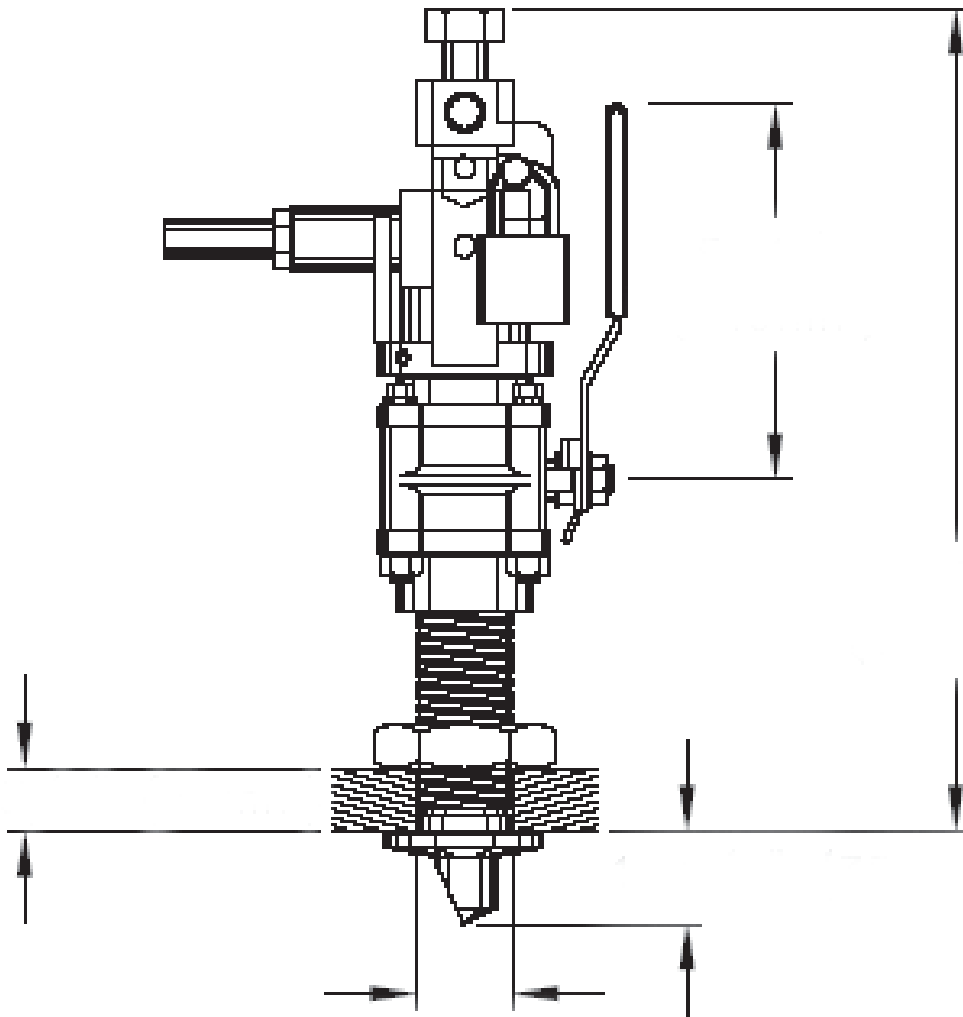

Figure 10-3 7600 Transducer
1. Verify the following three safety conditions are met below. See Figure 10-3 on page B-14. If any of these conditions is not met, STOP WORK on the transducer immediately and contact Accusonic for advice.
3. Remove the conduit clamp and gently pull the E-O connector out of the body of the transducer cable connector as shown in Figure 10-3 on page B-14.
Caution: Before leaving the transducer, be certain that the locking rod is fully engaged and padlocked and that the E-O connector is installed as shown in Figure 10-3 on page B-14.